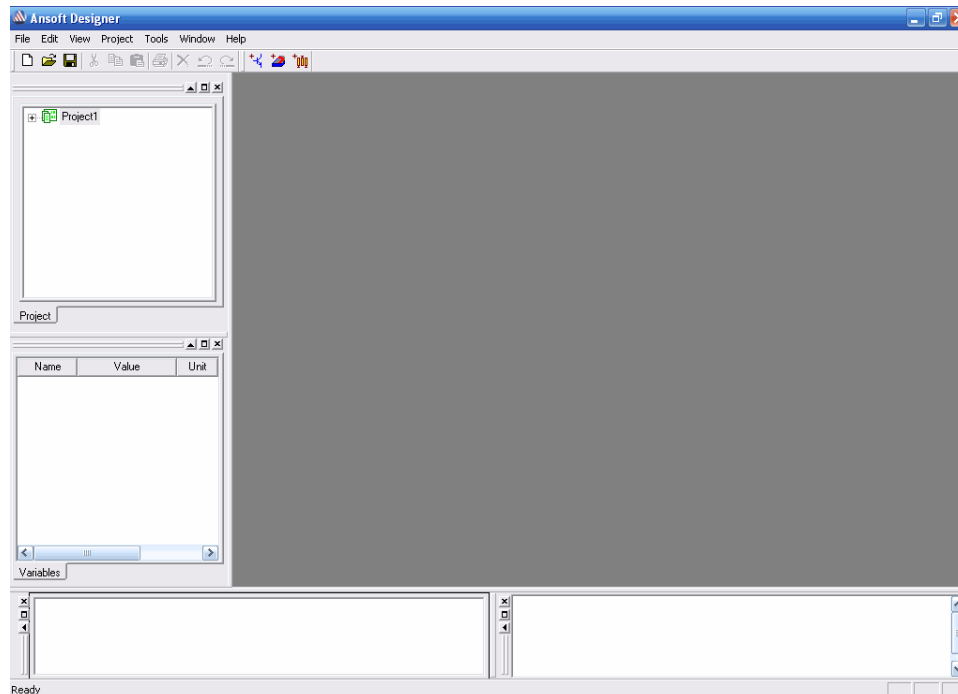

Figure 1. Ansoft Designer startup screen.
2. A new design space will appear similar to Fig. 1. This space is set by checking all the boxes under **View**. On the left of the screen is located a project window and in the upper part of the project screen is a **Project1**.